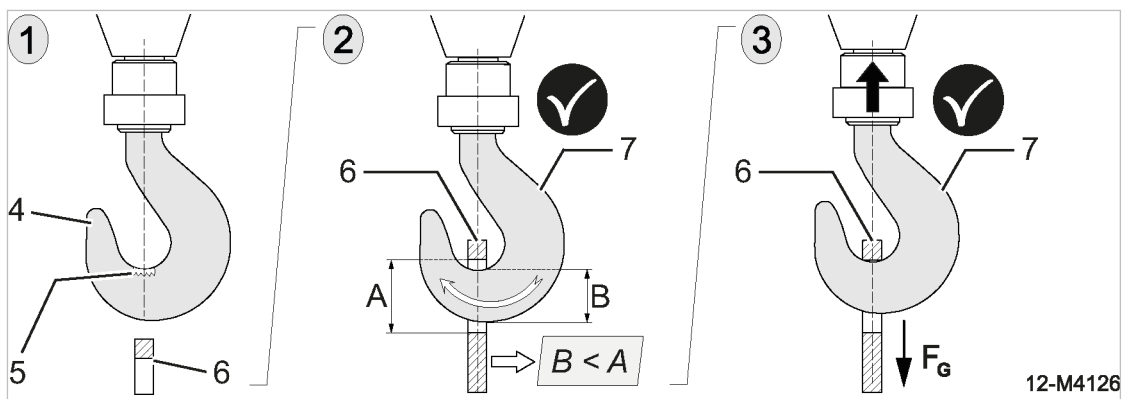

Fig. 67 Insert the crane hook properly
- Use a crane hook meeting the condition $B < A$, see Fig. 67, Position ②.
3. Slowly raise crane hook until it is positioned vertically in lifting eye with freedom of movement. Crane hook is properly inserted and positioned vertically, see Fig. 67, Position ②.
Requirements for lifting the machine by crane are fulfilled, see Fig. 67, Position ③.